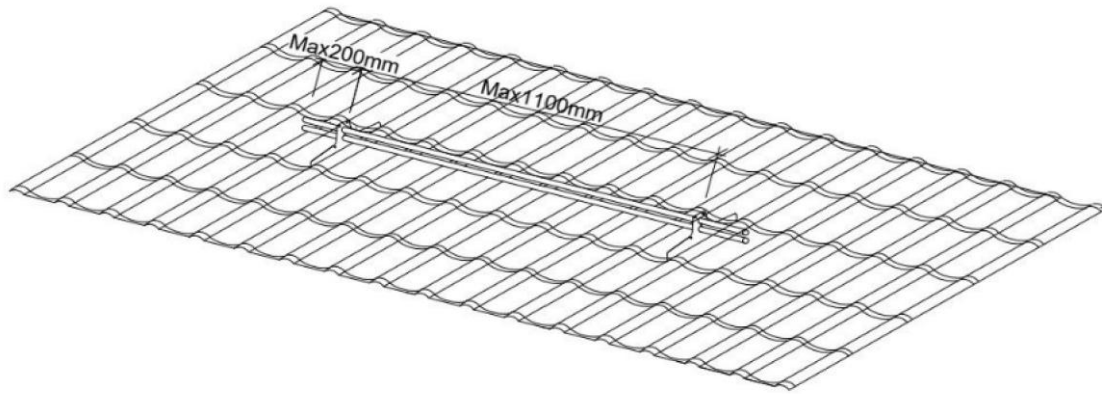

Figure 1.
- Place the tubes in the designated locations. The maximum distance between a RP-bracket plate and pipe ends is 200 mm (Figure 1).